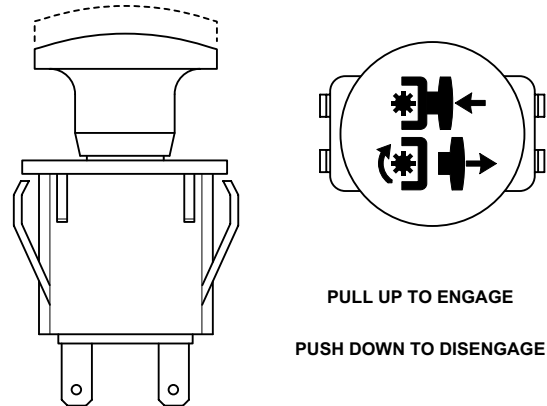

Figure 4-2. Cutter Engage Switch
2. Engage the deck drive by pulling out on the yellow switch, located on the instrument panel, to the engage position. See Figure 4-2.